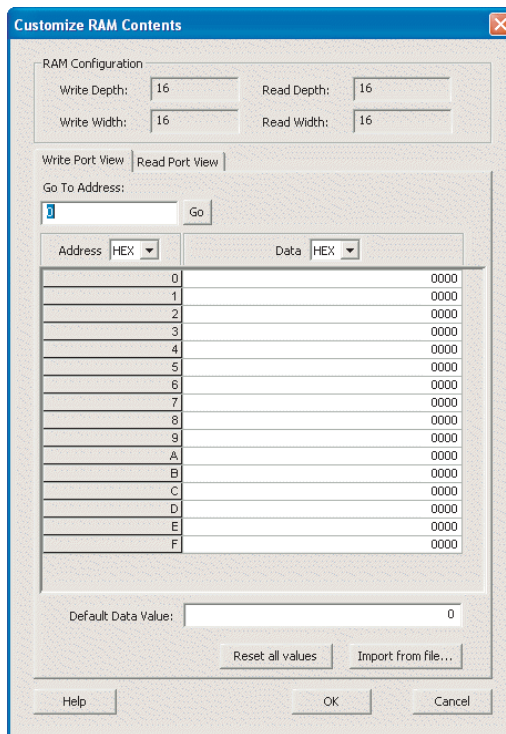

Figure 3-10. RAM Content Manager in SmartGen
3. Double-click Synchronous RAM to create a new RAM block for Axcelerator. Specify your RAM settings (set your Read and Write Depth and Width), select the Initialize RAM checkbox, and then click Customize RAM Content. The RAM Content Manager appears, as shown in Figure 3-10 on page 102.